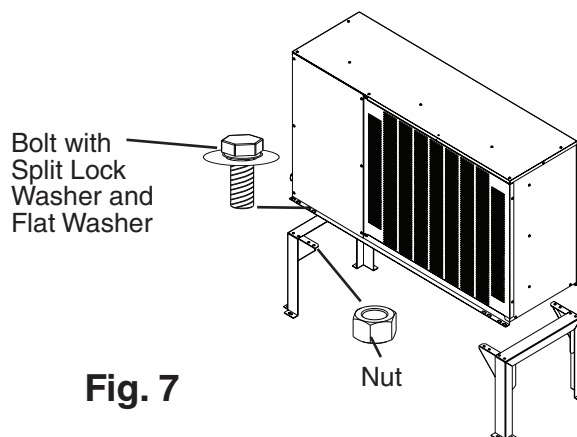

Fig. 7
- 1) Secure the legs to the remote condensing unit with the 16 bolts and nuts provided. See Fig. 7.